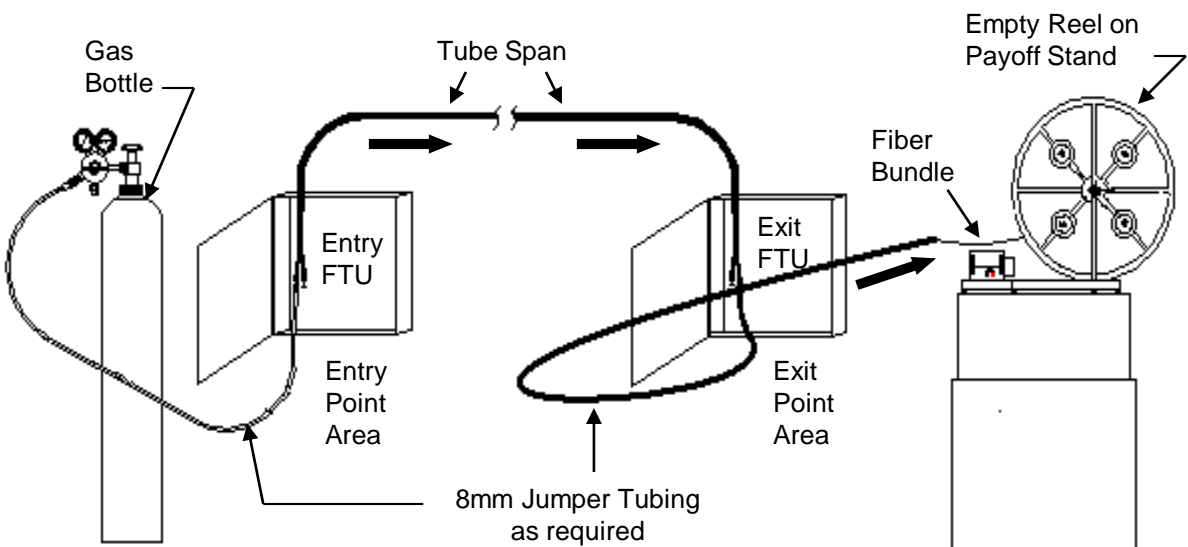

Figure 2
5.1 See Fig. 2 for Blowing Equipment Layout for Fiber Bundle Removal.